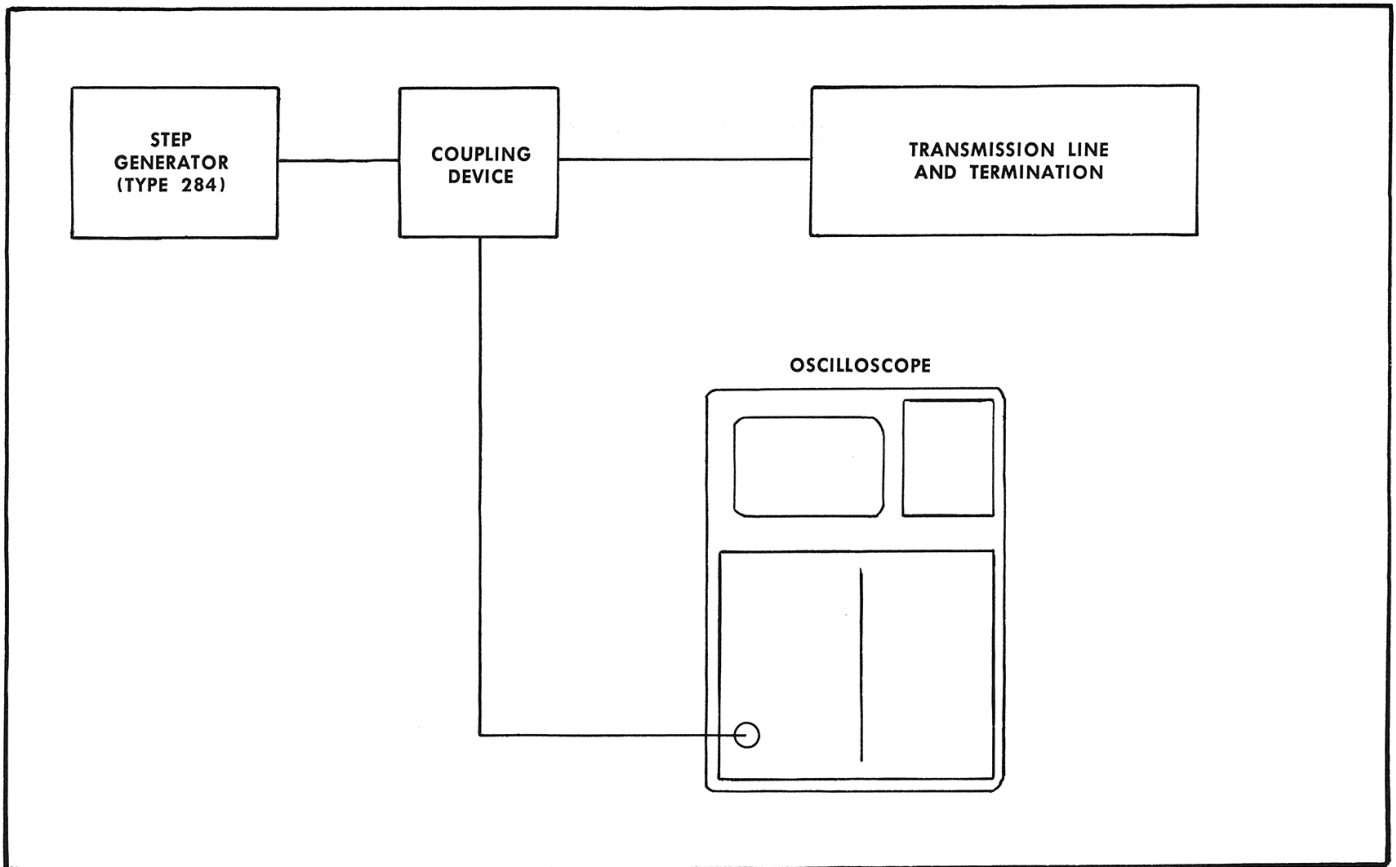

Fig. 2-22. A Time Domain Reflectometry (TDR) system.
A typical TDR system (Fig. 2-22) consists of 1) a step-signal generator, 2) a coupling device, 3) the transmission line under test and its output load, and 4) an oscilloscope to monitor the voltage at the transmission line input.
Formula (3) shows that a change in R_L directly changes E_{RL} . Since E_{RL} is the voltage observed by the oscilloscope, any change in R_L (the impedance of the transmission line) will produce a change in oscilloscope vertical deflection. In formula (3) we assume that R_g is equal to R_L , and that E_{RL} is not loaded by the oscilloscope. However, these factors are considered in the coupling device in Fig. 2-22. Consider R_L shorted, then E_{RL} will be zero. Conversely consider R_L open, then E_{RL} will be equal to E_g (the open circuit generator voltage).